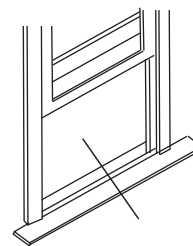

Fig.11
1. Open window and mark center of window inner sill as shown(Fig.11).